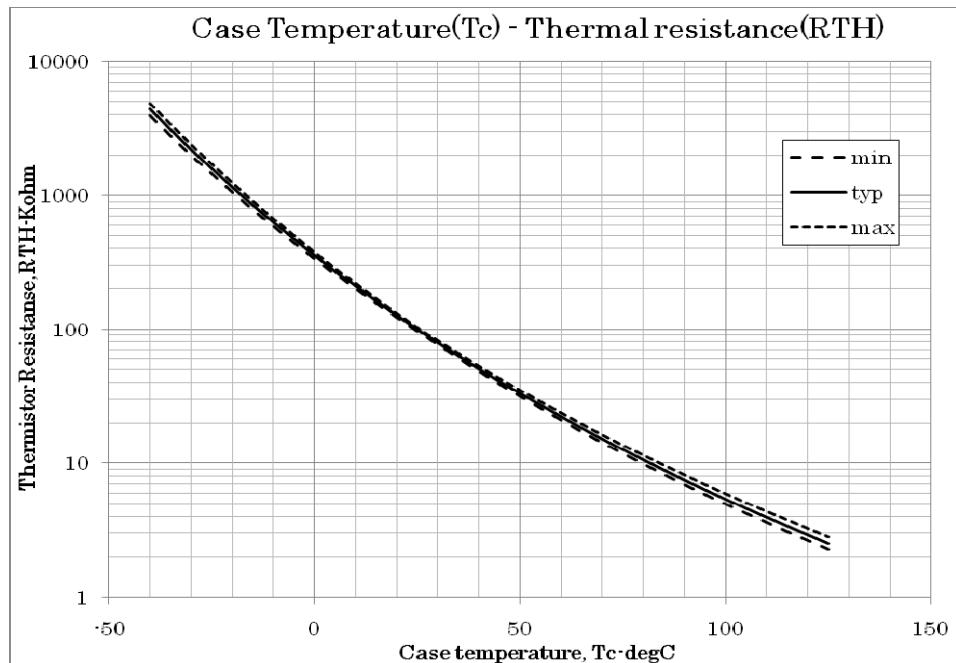
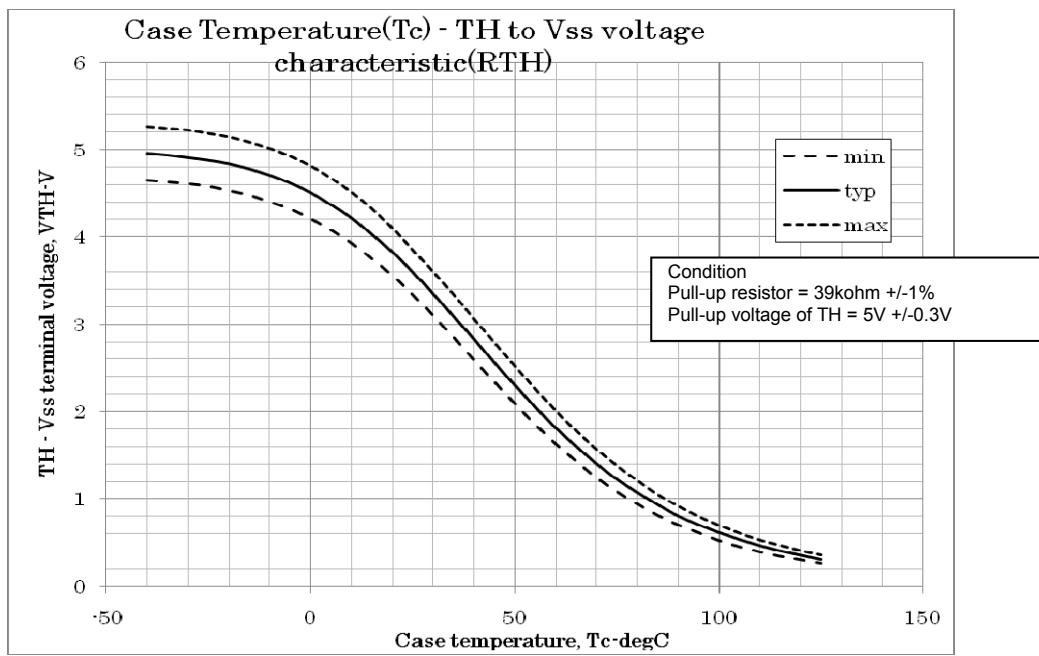

Fig.11 Variation of thermistor resistance with temperature
Fig.12 Variation of temperature sense voltage with thermistor temperature
4. Inside the IPM, a thermistor used as the temperature monitor for internal substrate is connected between "TH1" and "TH2". Generally, one of terminals is connected to  $V_{SS}$ , and the other is pulled up to external power supply with pull-up resistor ( $R_p$ ) externally. The temperature monitor example application is as follows please refer the Fig.11 and Fig.12 below.